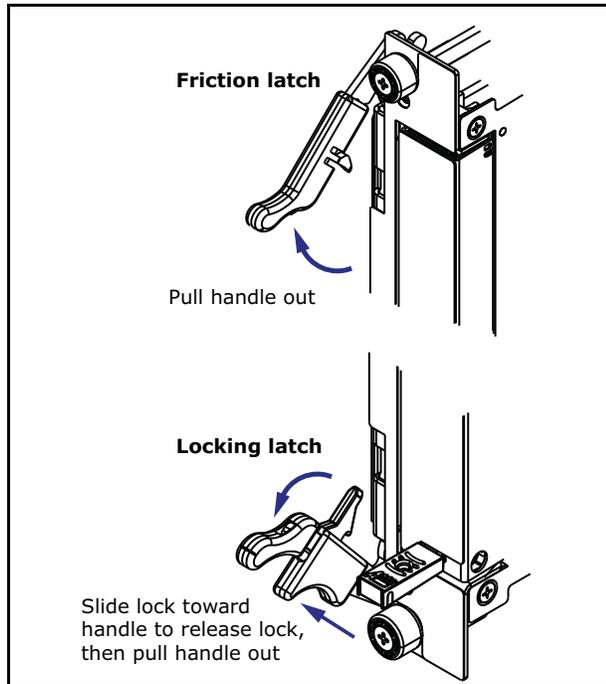

Figure 4.4 - Opening Ejector Latches
Some RTMs have two locking ejector latches, and others have one locking ejector latch and one friction latch. It is important that the lock is released before opening a locking ejector latch. See Figure 4.4 for an illustration of the ejector latches.
2. If one of the latches is a friction type, carefully pull the latch handle away from the RTM to open the latch. To open a locking ejector latch, disengage the lock by sliding the lock toward the handle to release the catch from the shelf latch rail, then pull the handle away from the RTM. See Figure 4.4.